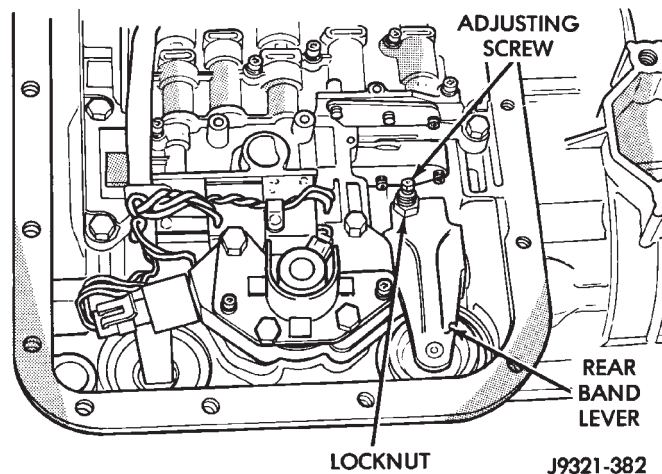

Fig. 250 Rear Band Adjusting Screw Location
- (1) Raise vehicle.
- (2) Remove transmission oil pan and drain fluid.
- (3) Loosen band adjusting screw locknut 5-6 turns (Fig. 250). Be sure adjusting screw turns freely in lever.